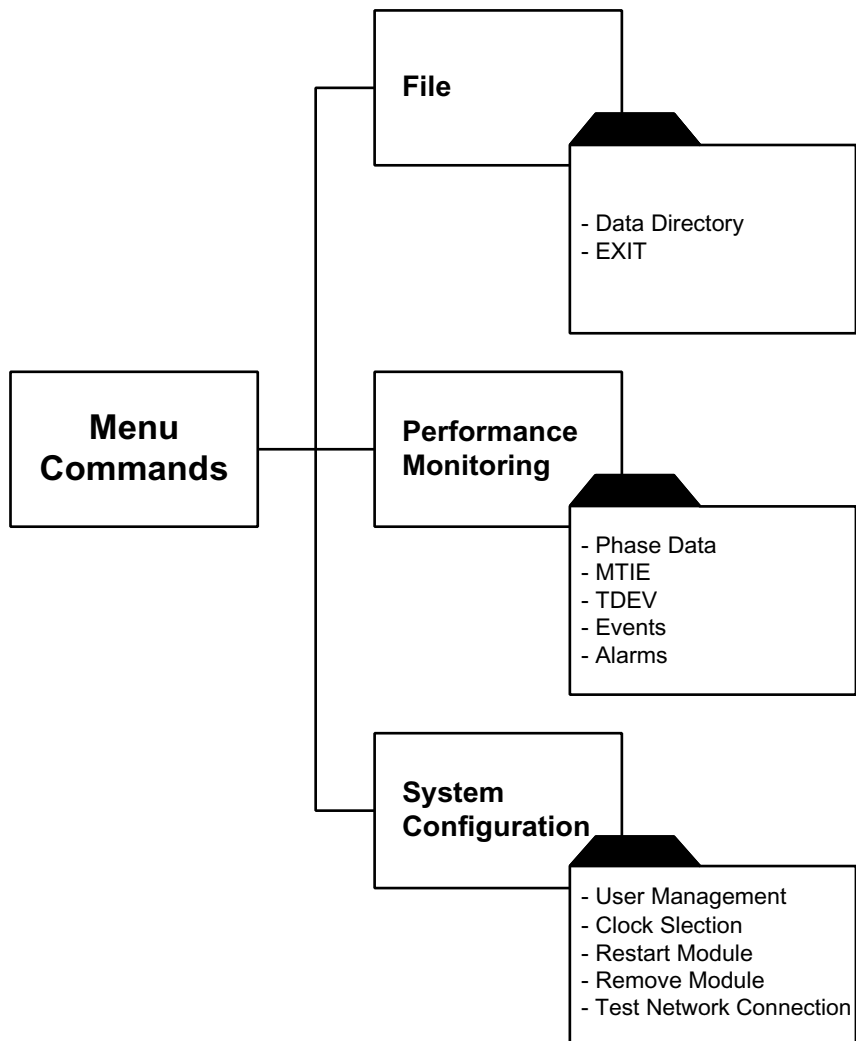

Figure 6-1. Menu Command Map
- Figure 6-1 summarizes the LMT menus and commands graphically.